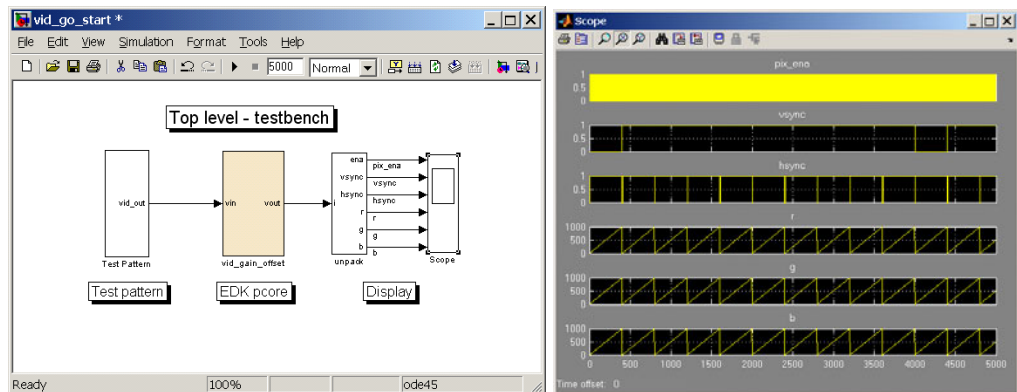

Figure 6-3: `vid_go_start` Simulation Results
- Run the model by clicking on the start simulation button. The user should see the test pattern displayed on the scope as shown in Figure 6-3.